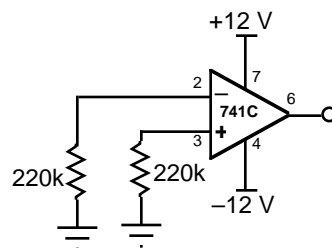

Fig 8.3
a) *Input offset and Bias Currents.* The 741C has a typical  $I_{in(bias)}$  of 80 nA. Assuming that this is the current through each 220 k resistor in Fig. 8.3, calculate the dc voltages at both inputs. Now connect the circuit and measure the input voltages. Repeat this measurement for the FET input, LF411 op amp. Calculate  $I_{in(off)}$  and  $I_{in(bias)}$  in both cases and compare the two op amps.